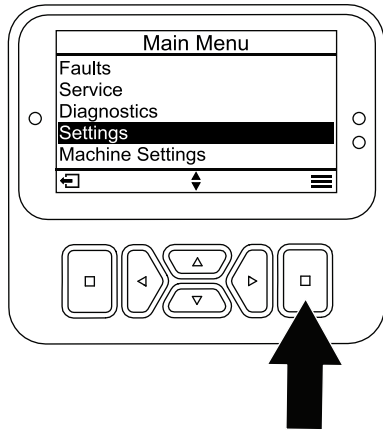

Figure 33
1. From the MAIN MENU, scroll down to the SETTINGS menu and press the select button (Figure 33).